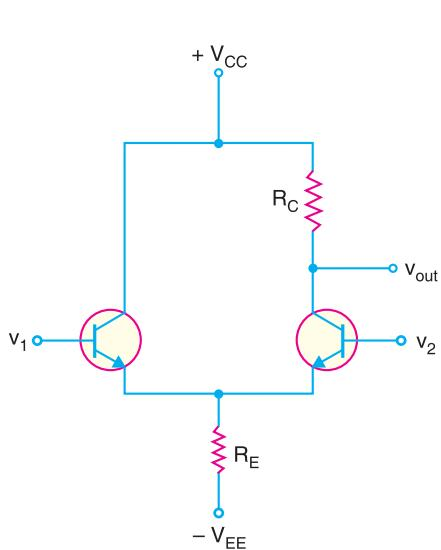
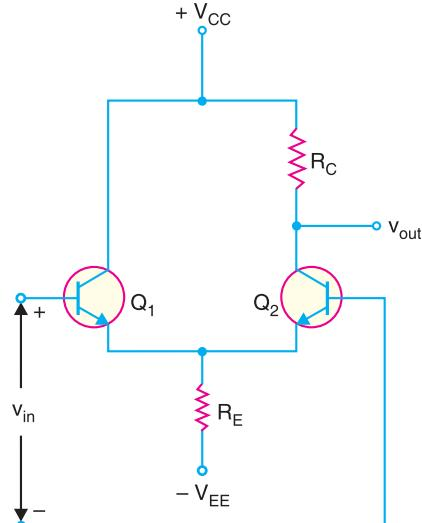
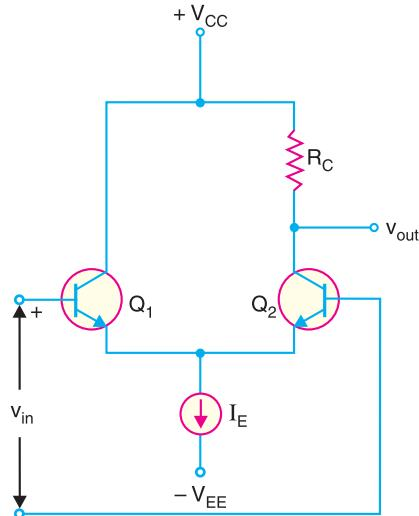
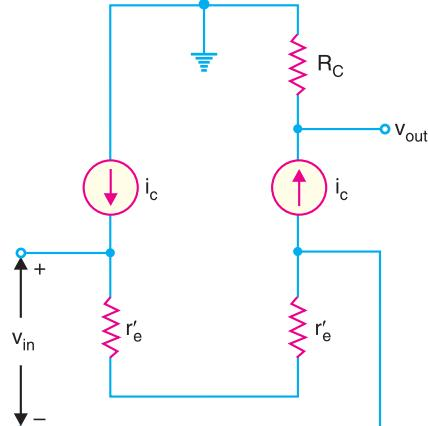

Fig. 25.27
Fig. 25.28
Fig. 25.29
Fig. 25.30
A differential amplifier (DA) has a noninverting input and an inverting input. Fig. 25.27 shows the differential amplifier (DA) that is used in IC OP-amps. Note the circuit has double-ended input and single-ended output.
If you look at the differential amplifier circuit in Fig. 25.27, it responds to the difference between the voltages at the two input terminals. In other words, DA responds to v_{in} ($= v_1 - v_2$). Therefore, the circuit shown in Fig. 25.27 can be drawn as shown in Fig. 25.28.
Ideally (i.e., V_{BE} is negligible), the tail current I_E in Fig. 25.27 is $I_E = V_{EE}/R_E$. Once the values of V_{EE} and R_E are set, the tail current is constant. Therefore, to simplify a.c. analysis, we can replace the tail current by a current source (I_E) as shown in Fig. 25.29. This will simplify the a.c. analysis of the circuit with almost no loss of accuracy.
A.C. Equivalent Circuit. We can easily find the a.c. equivalent circuit of differential amplifier by applying the usual rules to Fig. 25.29. The rules are to short all the capacitors, and reduce all d.c. sources to zero. Since a differential amplifier has no capacitors, all that we have to do is to reduce the d.c. sources to zero. Reducing a voltage source to zero is equivalent to replacing it by a short. Reducing a current source to zero is equivalent to opening it. In Fig. 25.29, this means ground the V_{CC} point, ground the V_{EE} point and open the current source. Applying these conditions to Fig. 25.29, we get the a.c. equivalent circuit of differential amplifier shown in Fig. 25.30.
Voltage gain. Fig. 25.30 shows the a.c. equivalent circuit of a differential amplifier. This is how a differential amplifier looks to an a.c. signal. Note that r'_e ($= 25 \text{ mV/d.c. emitter current}$) is the a.c. emitter resistance. Since the two r'_e 's are in series, the same a.c. emitter current exists in both transistors. The a.c. emitter current is given by;